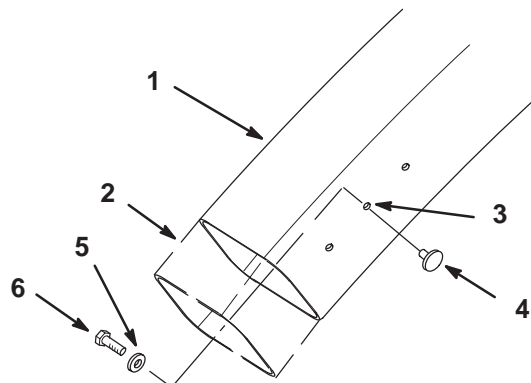

Figure 13
- Cut 2-3/4 in. (7 cm) off the bottom of the discharge tube (Fig. 13).
- Attach the knob to the center hole in the discharge tube (Fig. 13) and secure it with a washer (1/4 in.) and bolt (#10 x 5/8 in.).